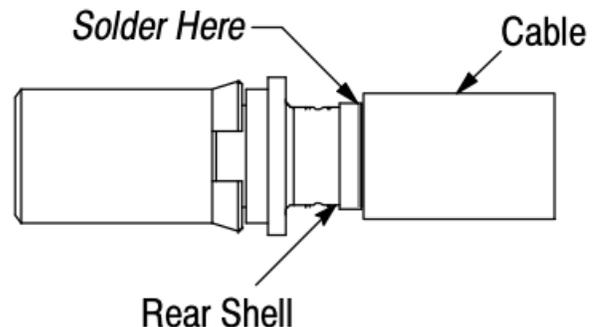

Figure 3: Soldering the cable assembly.
- Insert the cable center conductor into the center contact inside the rear shell of the cable plug until the cable bottoms. See Figure 3.
5. Holding the cable center conductor in place and using 60/40 solder, attach the rear shell to the cable as shown in Figure 3.